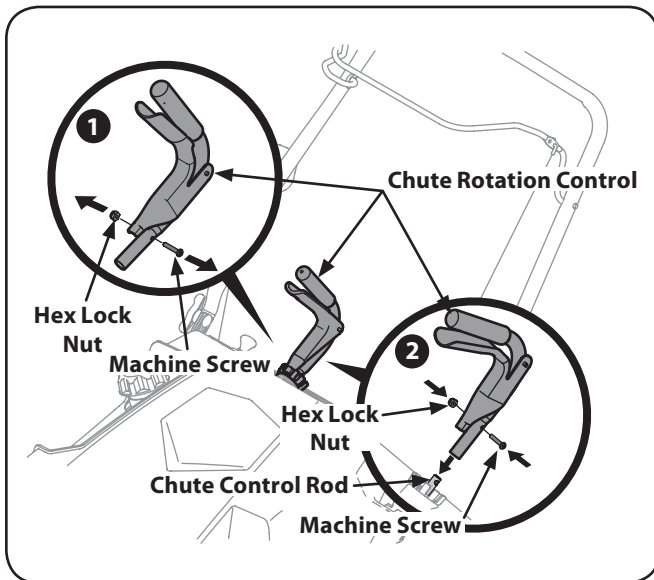

Figure 3-5
1. Remove the hex lock nut and machine screw from the chute rotation control. See Figure 3-5.
2. Place the chute rotation control onto the chute rotation rod and secure with the hex lock nut and machine screw removed in step 1. See Figure 3-5.